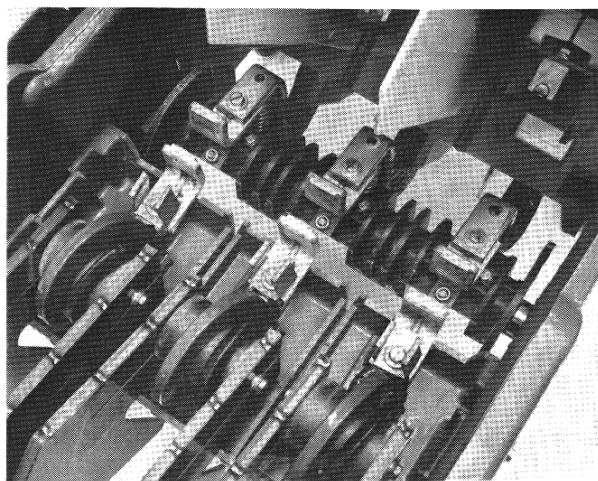

Fig. 46. Blowout assembly of 700-ampere contactor
1. The blowout coils consist of a single-turn primary coil which is in series with a six-turn auxiliary coil during interruption only (see Fig. 46).